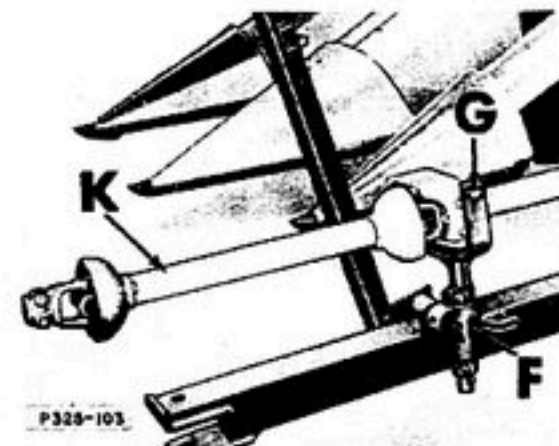
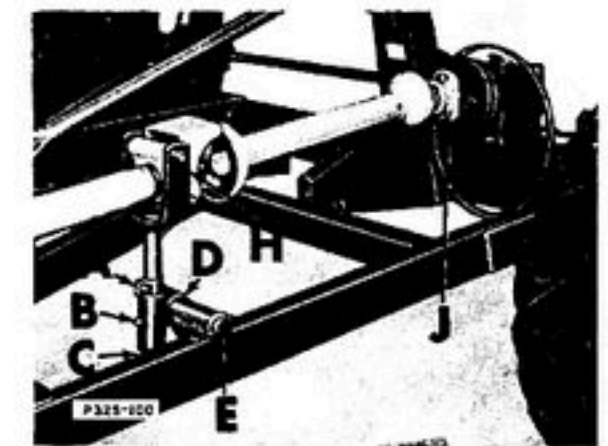

Figure 48
Figure 49
Figs. 48 & 49 - Note: The power shaft must be aligned with the tractor and the implement being mounted on the picker. See Page 9, Fig. 6 for shaft and bearing adjustment. Both the 540 and 1000 RPM power shafts install in the same manner except where noted. If the 1000 RPM drive is being installed, the gears in the main drive gear box will have to be reversed. Re-assemble the gear box as described on Page 13.
1. Slide bearing clamp "A" (Fig. 49) onto yoke shaft, follow with pivot bearing "B", then another clamp at "C". Snug clamp bolts.
2. Place a 1-9/32" I.D. x 2" O.D. x 3/32" washer on pivot shaft at "D" (Fig. 49). Insert shaft through bearing in hitch, place another washer on shaft at "E". Secure in place using a 1/4 x 2" cotter pin.
3. Install front bearing support assembly "F" (Fig. 48) in the same manner as the rear support except that it goes to the outside of the tongue.
4. Bolt center power shaft assembly to yokes at "G" (Fig. 48) and "H" (Fig. 49) using 1/2 x 7" machine bolts with a 5/8" O.D. x 5-9/16" long bushing in bearing housing. Use self locking nuts on bolts. Tighten bolts.
6. Slide rear P.T.O. assembly onto center power shaft at "H" (Fig. 49). Secure in place using set-
7. Slide shear hub onto input shaft at "J" (Fig. 49). NOTE: If a husking unit is being used, place the jack shaft drive belt (shortest of two belts shipped) over sheave next to gear box prior to installing power shaft. No belt required for sheller or grinder.
8. Bolt shear hubs together at "J" (Fig. 49) using 5/16 x 2" hardened, Grade 5, machine bolts for 540 RPM drive. Use 1/4 x 2" hardened, Grade 8, machine bolts for the 1000 RPM drive.
9. Slide front P.T.O. assembly "K" (Fig. 48) onto center shaft and secure in place using setscrew and jam nut found in joint. Make sure countersunk hole in rear shaft is aligned properly before tightening setscrew. Insert wire through setscrew and secure around yoke.